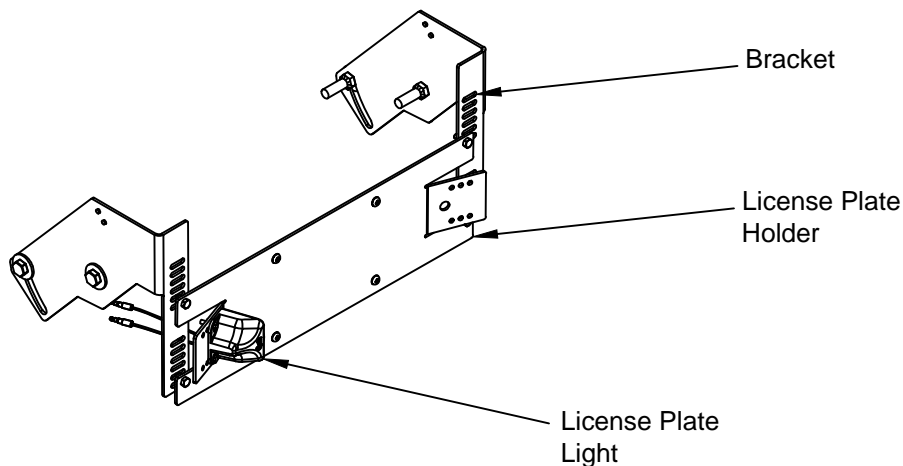

Figure 8: License plate light.
- 4. Bolt** the License plate light, with the provided two (2) 10-32 bolts and 10-32 keps nuts, on the left side (recommended) of the license plate holder (Figure 8).